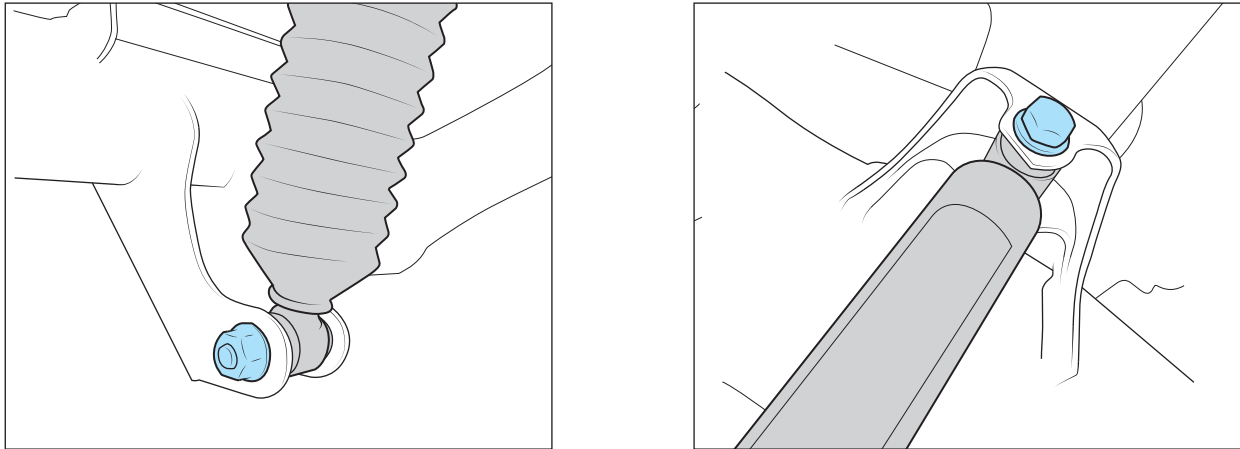

Figure 13
17. Install AEV Rear Shocks (PN:33-312200), body up in the factory locations using the factory hardware (fig. 13). Torque upper hardware to 80 lb-ft and lower to 75 lb-ft. Reinstall parking brake cables and calipers.